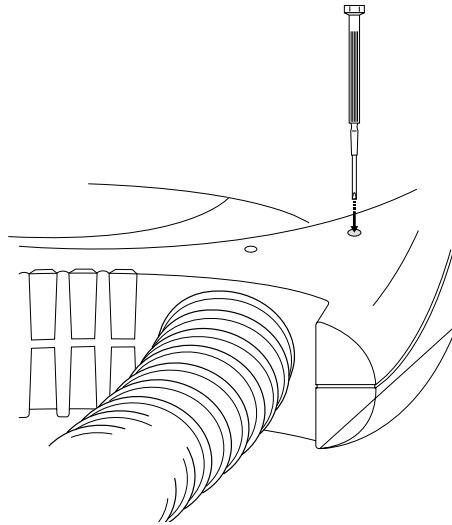

Figure 9. OT test button hole.
3. With a small screwdriver, press the OT test button (see Figure 9). Continuously depress for the duration of the over-temperature test.* When functioning properly, the “Over-Temp” indicator will illuminate, the OT value will be below 53°C, and the unit will switch off within 2 minutes. If this does not occur, return the unit to Arizant Healthcare Inc. for service.